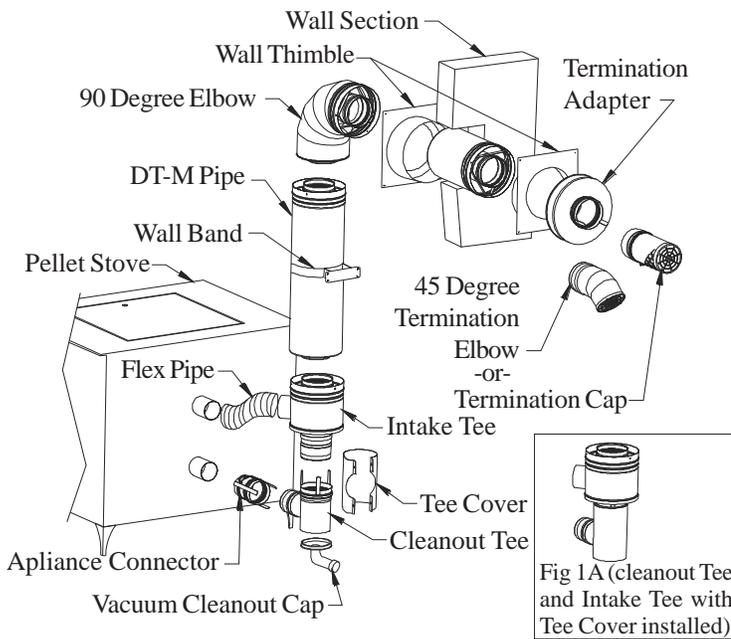

Fig 1. (Up & Out Installation)
- Determine the type of installation and termination (vertical or horizontal) that will be installed and obtain the necessary parts to complete the installation (See Figs. 1, 2, and 3 for installation examples and their required parts).
- b. If the vent planning was to include a vertical rise, a tee section or 3” to 4” tee increaser must be used to turn the vent vertical. A Tee Cover is installed around the tee to provide a barrier against radiant heat from the vent. Position tee so that it is vertical, and the cleanout tee cap is at the bottom (see Fig 1). Expand the seam of the Tee Cover and wrap it around the Tee so that the snout of the Tee passes through the hole in the Tee cover. Connect tee to the Appliance Connector, Intake Tee and Tee Cap. Note: A Vacuum Cleanout Cap (VCC) may be installed in place of a standard Tee Cap to facilitate in future maintenance and cleaning of the system. See “Vacuum Cleanout Cap” Section for installation and maintenance instructions (see Fig. 1). After the Tee is properly connected to the adjoining items, complete Tee Cover installation by clamping Cover shut with the hardware provided (see Fig. 1A).
The Mitered Termination Screen is a straight length of vent with a spark arrester integrated into the end. It is designed to direct flue gases perpendicularly away from the outside wall of the building (see Figs 1 & 2).
The 45 Degree Termination Elbow is used in through-the-wall installation and provides for redirection of exhaust gases if needed or desired (see Figs 1 & 2).